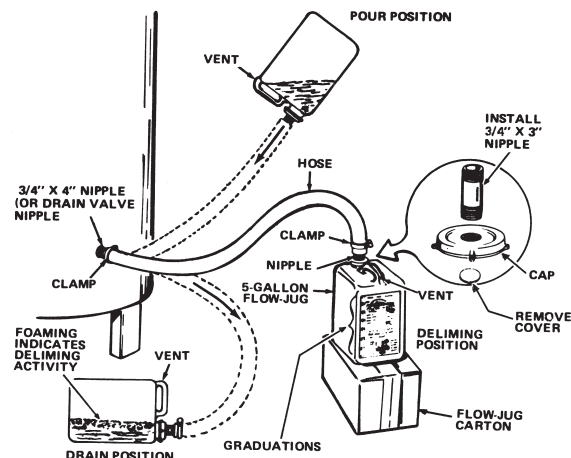

Figure 26. Flo-Jug Method
2. Lift container to the "Pour" Position (*Figure 26*), being careful to keep the vent in the handle above the liquid level and pour the UN•LIME into the heater.
4. Let UN•LIME remain in the heater for 5 minutes and then lower the container to the "Drain" Position. See *Figure 26*.
- The pilot flame should envelop sensing device with 5/8" (1.6 cm) flame, Figure 26. Remove pilot adjustment cover screw. Turn inner adjustment screw clockwise to decrease, or counterclockwise to increase pilot flame. Be sure to replace